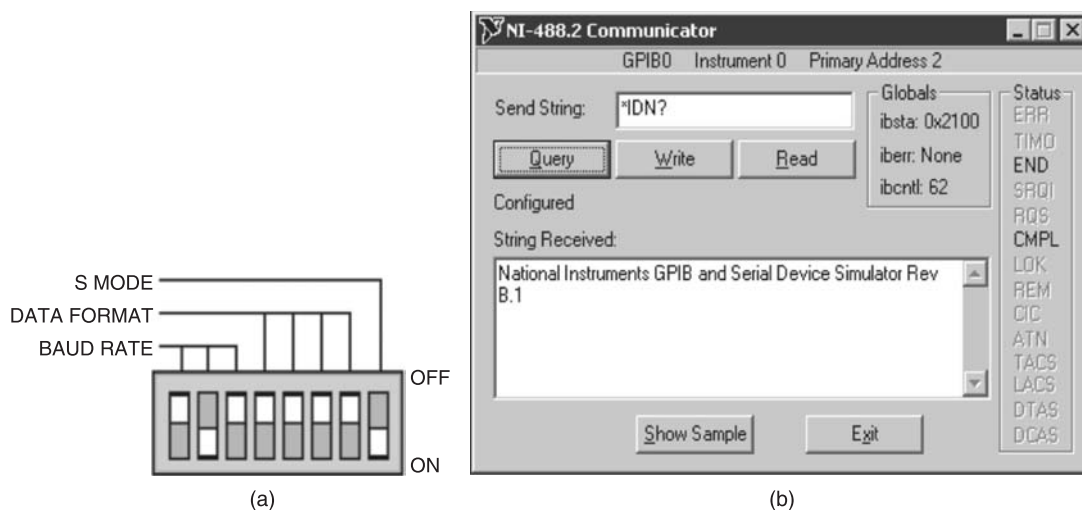

Figure P10.1
- Step 1:** Power off the NI Instrument Simulator and configure it to communicate through GPIB by setting the left bank of switches on the side of the box [Figure P10.1(a)].
- Step 11:** Type *\*IDN?* in *Send String* and click the *Query* button [Figure P10.1(b)]. The instrument returns its make and model number in *String Received*. You can use this window to debug instrument problems or to verify that specific commands work as described in the instrument documentation.